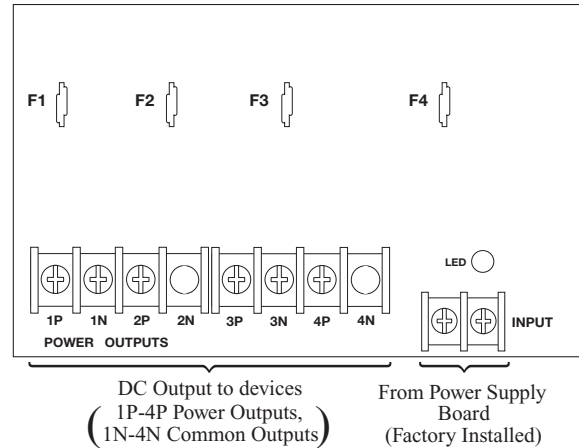

Fig. 3a
- b. For other Power Distribution Models: connect devices to be powered to the terminal pairs 1 to 4 marked [1P & 1N] through [4P & 4N] (Fig. 2a & 2b, pg. 5) or 1 to 8 marked [1P & 1N] through [8P & 8N] (Fig. 3a & 3b, pg. 5), carefully observing correct polarity.